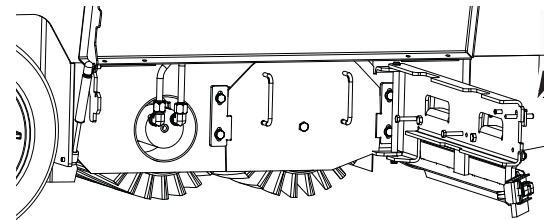

Fig. 4
4. Release the retaining latch at the rear of the side squeegee mount and swing the side squeegee mount open. (See Fig. 4)